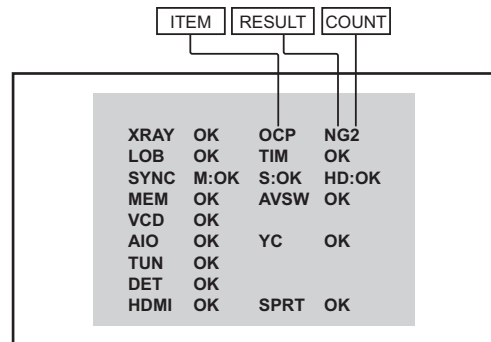

Fig.3
- (4) Press [ 4 ] key then < SELF-CHECK > screen is appear. (Fig.3)